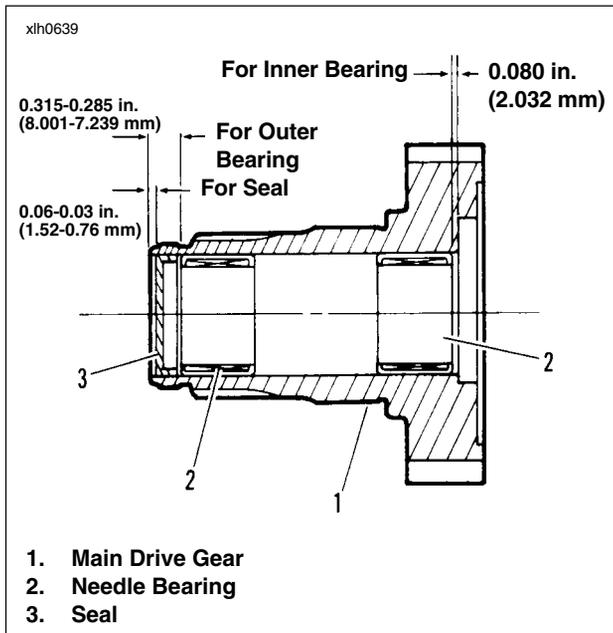

Figure 6-51. Main Drive Gear Assembly
2. See Figure 6-51. From inside case tap out seal (3) at end of mainshaft 5th gear (1). Discard seal (3).
- a. Take bolt (2) and place washer (5) followed by main drive gear (4) over end of bolt.
- c. Insert threaded end of bolt (2) through installer cup (3) and thrust washer (1).
- d. Thread nut (6) onto end of bolt (2). Tighten nut (6) until shoulder on gear (4) bottoms against inner race of bearing.
3. See Figure 6-51. Tap in **new** seal (3) at threaded end of 5th gear.